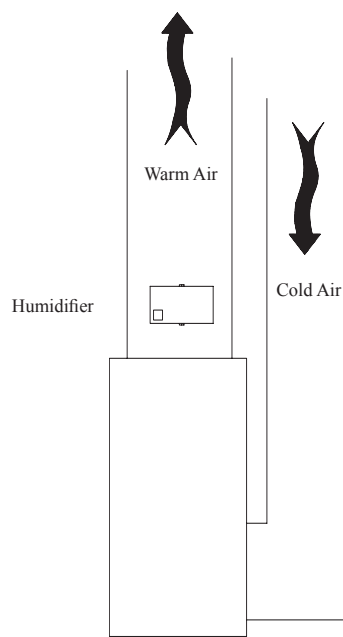

FIGURE 1
- Mount the humidifier on the warm air plenum only**, with the nozzle pointing up in the direction of airflow (see Figure 1, left). On narrow plenums, mount the humidifier on the narrow side.